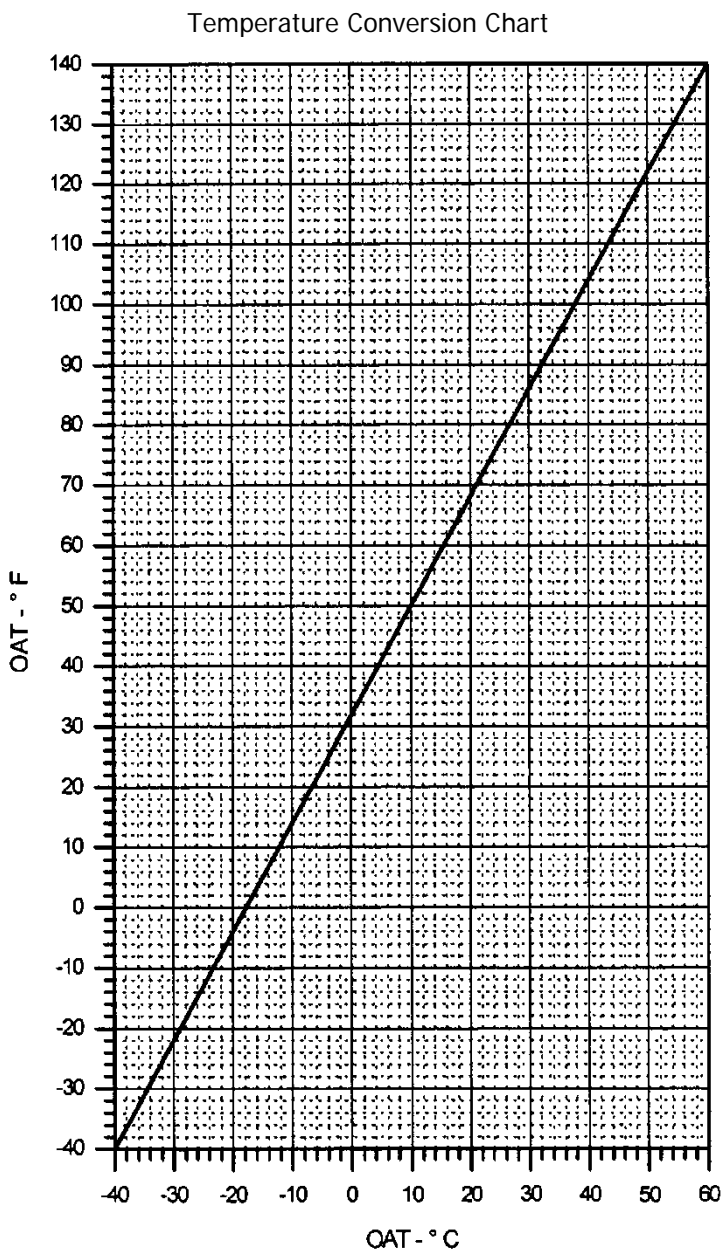

Figure 4-1. Temperature Conversion Chart
1. Refer to Figure 4-1 for temperature conversion from degrees F to C or degrees C to F.